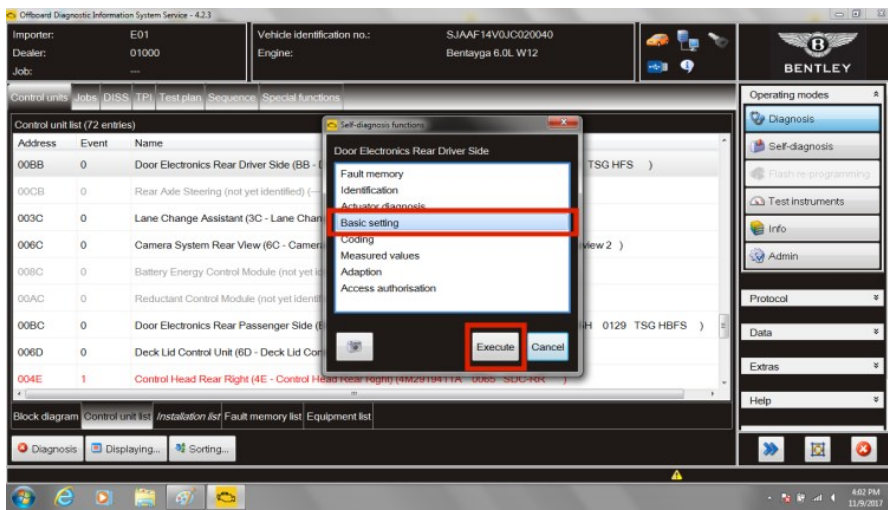

Figure 8
19. Within *Control units*, Door Electronics Rear Driver Side, Select *Basic settings* and then *Execute* (see Figure 8)